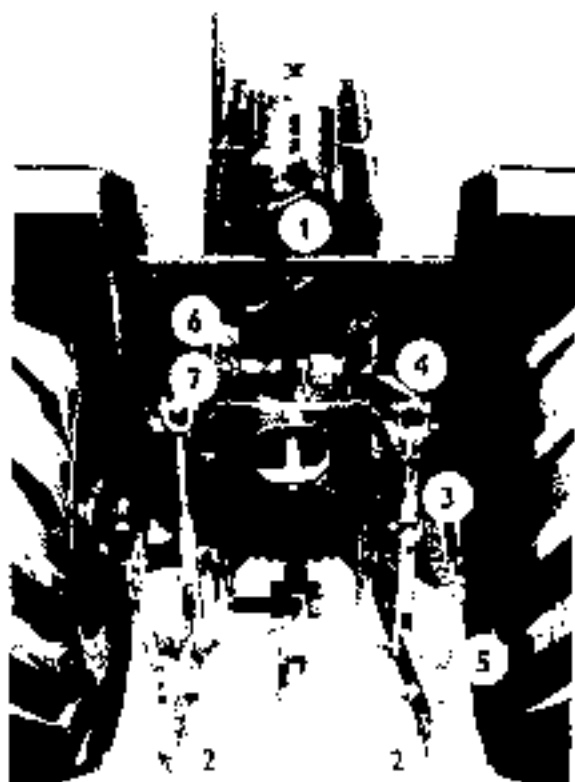

Fig. 24
- A similar target designation can be found on the quick coupler (Fig. 24/6, 7), it designates pressure oil supply upon raising.